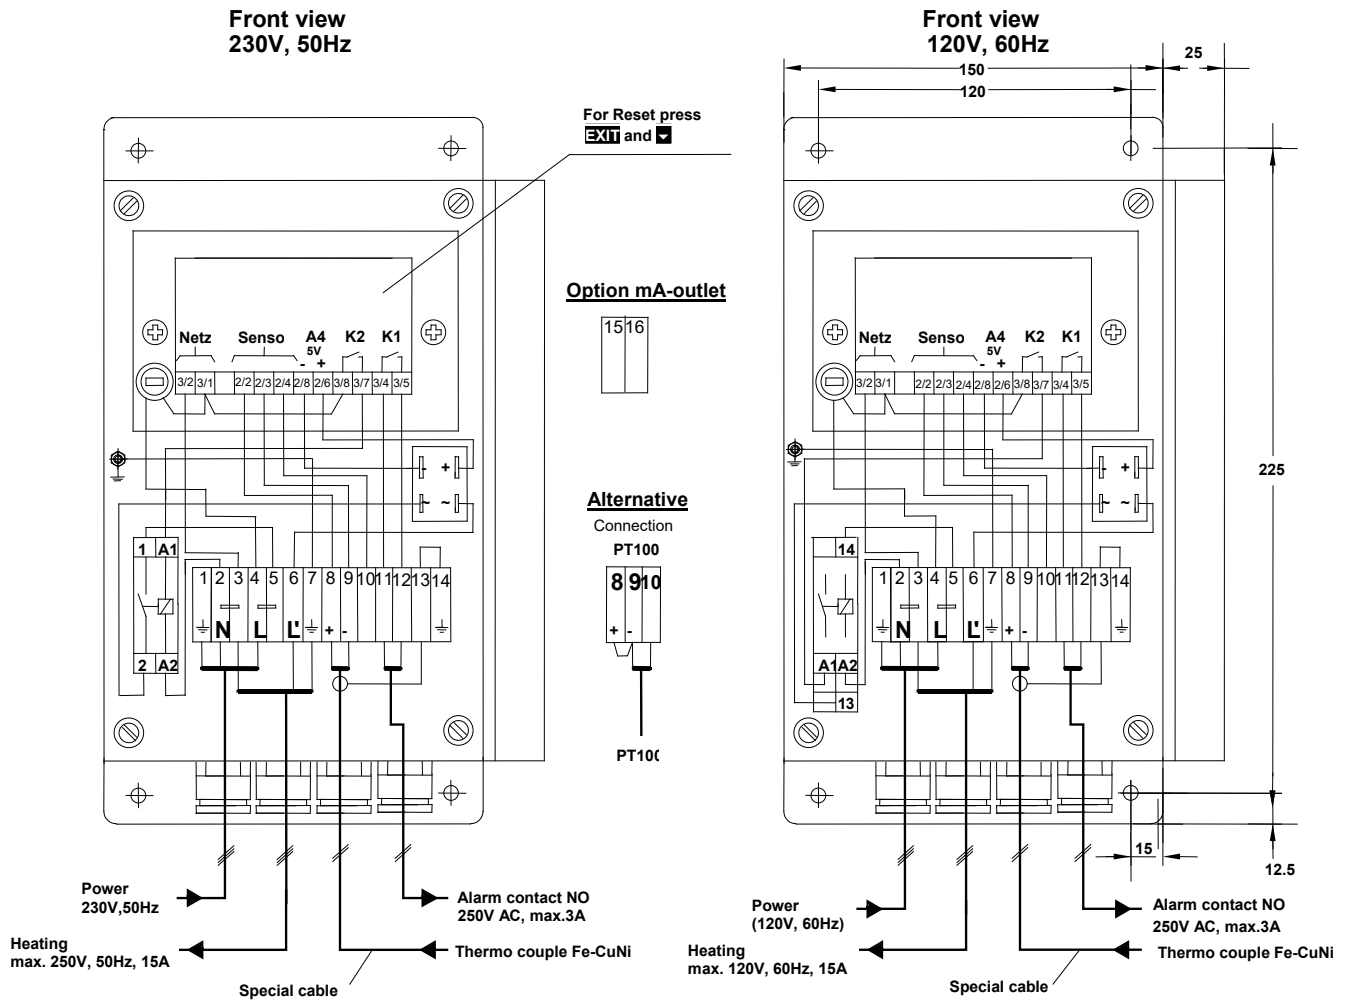

Figure 13 Electrical connection for SP2006-H.. at the 70304G
- Open the valve for the dilution gas. Set the precision pressure reducer to the pressure specified on the enclosed injector data sheet (see figure 13).
The test gas quantity must be approximately 10 % above the quantity of the volume flow passing through the bypass (see figure 14) and the critical orifice (see figure 13).